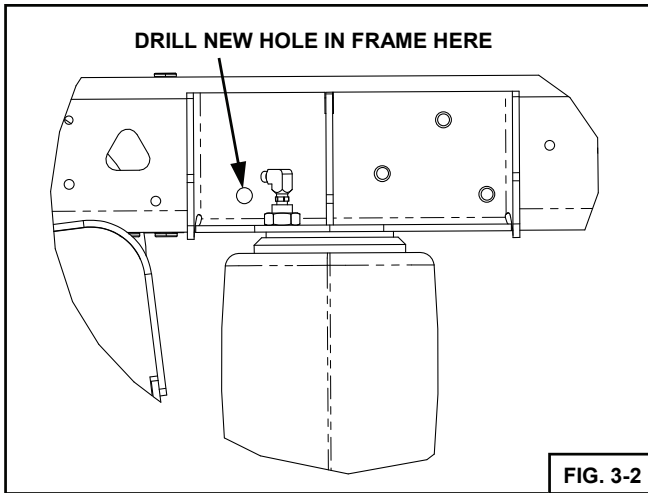

FIG. 3-2
- 6. Bolt the DRIVER'S SIDE AIR SPRING BRACKET ASSEMBLY to the frame using (4) 9/16 x 1 1/2 UNF FLANGE BOLTS, (8) 9/16 WASHERS and (4) 9/16 UNF TOP LOCK FLANGE NUTS. One new frame hole will need to be drilled to 0.59" on each side. See Figures 3-2 (Driver's Side) & 3-3 (Passenger's Side). (See Table 10-1 for appropriate Torque).
- 7. Bolt the AIR SPRING to the TRAILING ARM using (1) 3/8 x 3/4 UNC BOLT. Make certain the AIR SPRING is not twisted or creased after tightening the bolt. (See Table 10-1 for appropriate Torque).